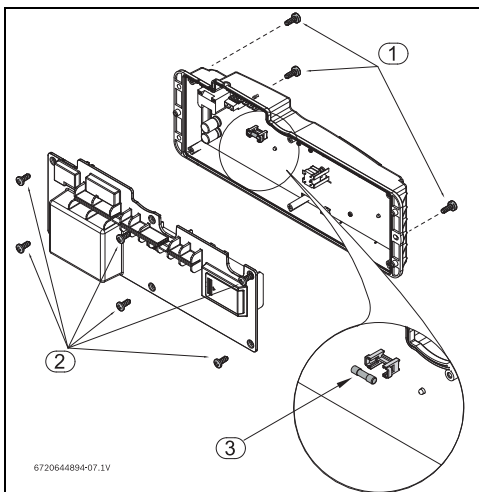

Fig. 41 Fuses position
- Remove the six screws from the back cover of the control unit, see fig. 41, pos. 2.
- Check the fuses in the printed circuit board, see fig. 41, pos. 3.